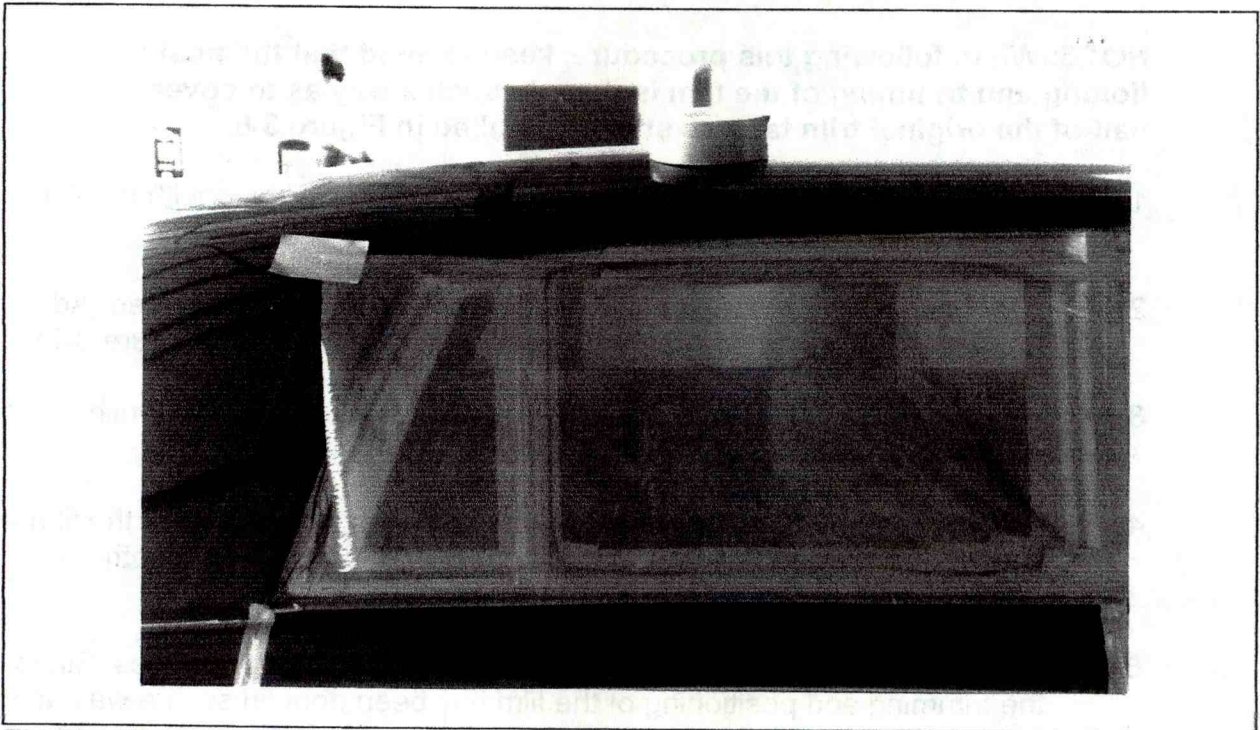

Figure 3-7
2. Tack the film in place along the top edge of the area to be covered. Adjust the film until it hangs smoothly without folds or wrinkles (Figure 3-7).